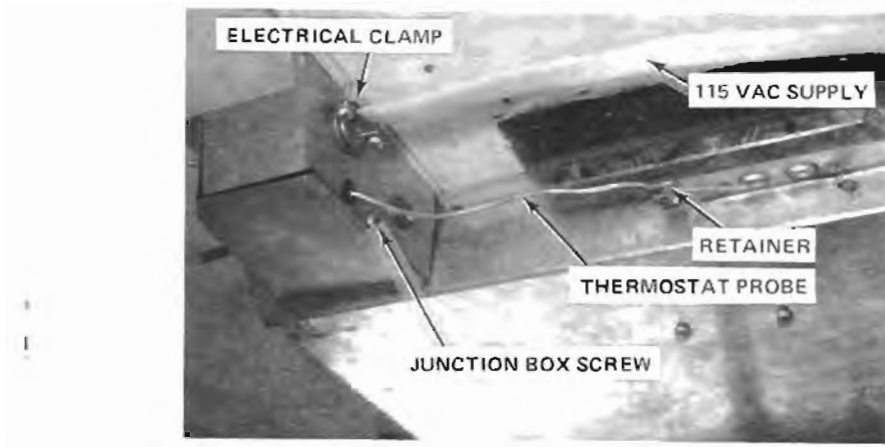

Figure 9
- 9 Route the 115 volt AC electrical supply wire to the thermostat junction box. Loosen the junction box screw at the back and drop down the junction box cover. Route the 115 VAC supply leads through the electrical cable clamp and into the junction box. Figure 9.
11. Tighten the electrical cable clamp to secure the 115 volt supply wire in place and reinstall the junction box cover. *Be sure the thermostat probe is routed back through the plastic retainer.* Figure 9.